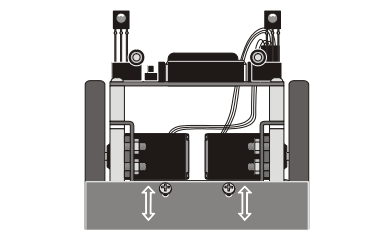

Figure 1-2
The plow is held to the chassis by two screws shown in Figure 1-2. Each screw passes through a slot in the plow. Adjusting the plow is a simple matter of loosening the two screws, changing the plow's position, then retightening the screws. Each slot only has a few millimeters of wiggle room. Even so, the slight adjustments you can make to the plow's height and tilt can make a big difference in performance.
- ✓ Start by adjusting each plow so that it is flush to the sumo ring's surface along its whole length, as shown in Figure 1-2.